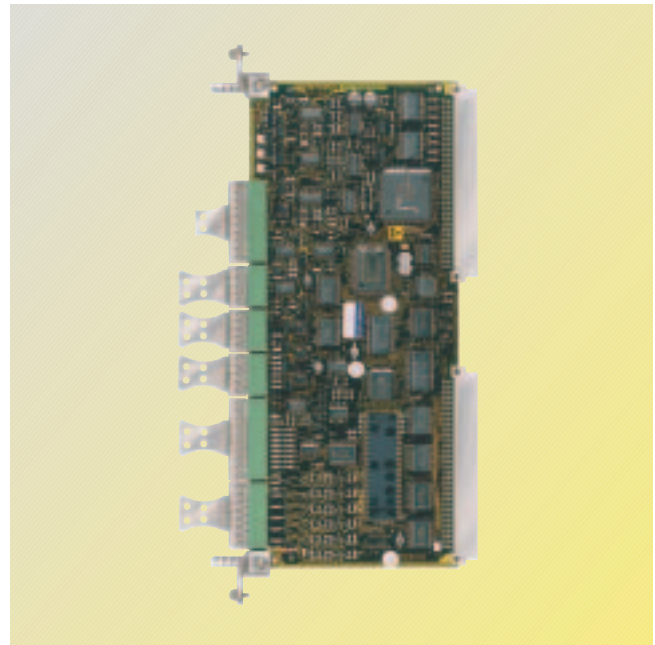

Fig. 6/74
- Terminals with 8 binary inputs, 5 binary outputs, 5 analog inputs and 2 analog outputs (see Fig. 6/75). All external signals are directly connected at the screw/plug-in terminals 50 to 92 on the T100.
- 2 high-speed serial interfaces, which can be used independently of each other (see Fig. 6/75):